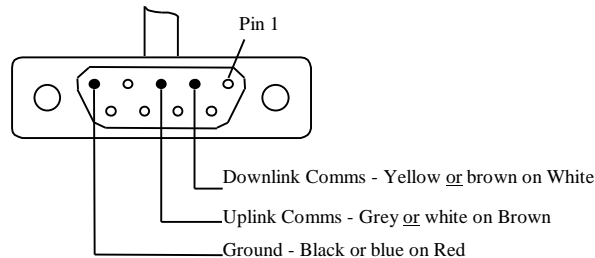

Figure 5. STMON PC Connection
1. STMON communicates via the PC RS232 com port which connects to the ST drop cable. The PC may be attached to the Junction Box with a cable terminated as in Figure 5.